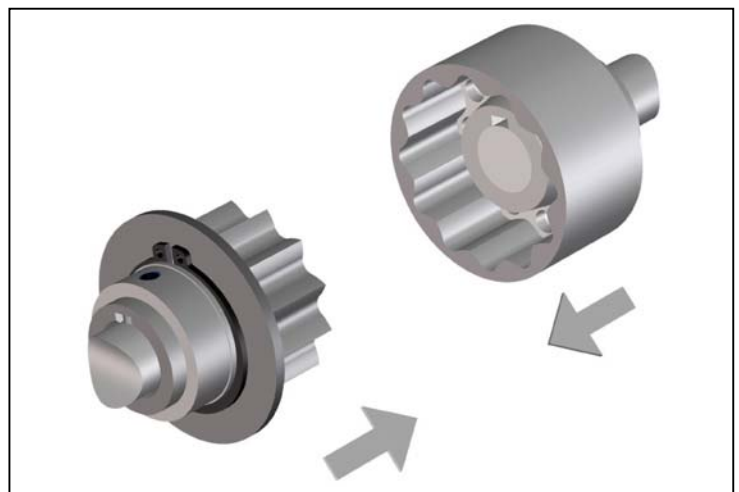

Fig. 5
- Push the shaftends with the mounted halves of the coupling together (Figure 5).